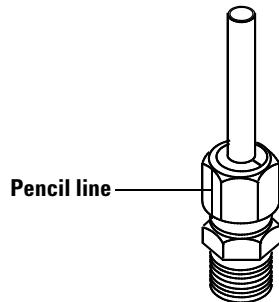

Figure 10 Marking the fitting
- 7 Mark the nut with a pencil line (Figure 10).